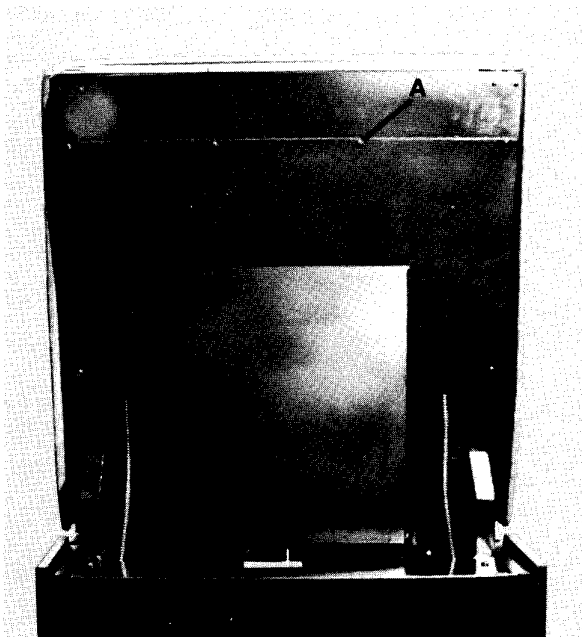

Fig. 13
- 1) Remove back section cover by removing (8) screws, Item A, Fig. 13. It is easiest to do this by first placing the Model 115 in a chair position.
- 2) Replace back section cover by placing the cover in position, aligning holes, and installing (8) #10-24x $\frac{3}{8}$ " screws, Item A, Fig. 13.
It may be necessary to remove the back section cover to have access to the cotter and clevis pins. If required remove the back section cover by removing (8) screws, Item A, Fig. 13.